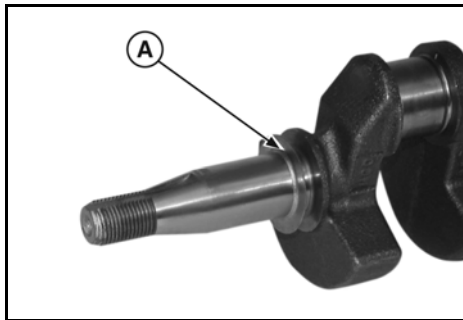

Figure 13
- Models 120000, 150000 Vertical and Horizontal Engines - install shim on magneto-end of crankshaft (A, Figure 13).